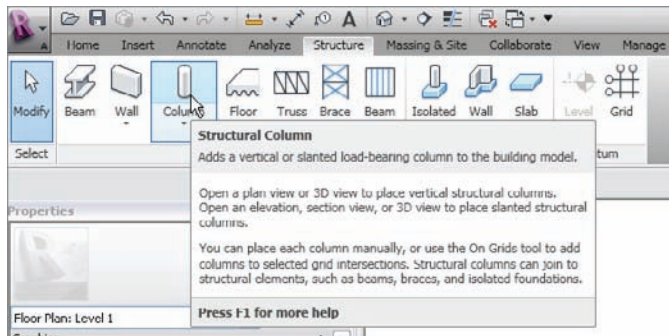

FIGURE 8.21 The Structural Column button on the Structure tab of the Ribbon
3. On the Structure tab, click Column > Structural Column, as shown in Figure 8.21. This tool is also on the Home tab.